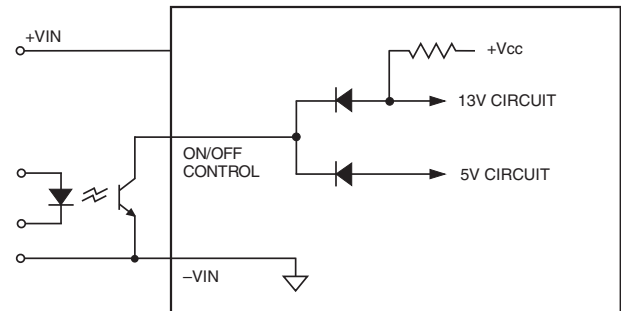

Figure 4. Driving the Negative Logic On/Off Control Pin (simplified circuit)
**Negative** (“N” suffix) logic devices are off when pin is left open (or pulled high, applying +2.5V to +15V), and on when pin is pulled low (-0.1 to 0.8V) with respect to –Input as shown in Figure 4.